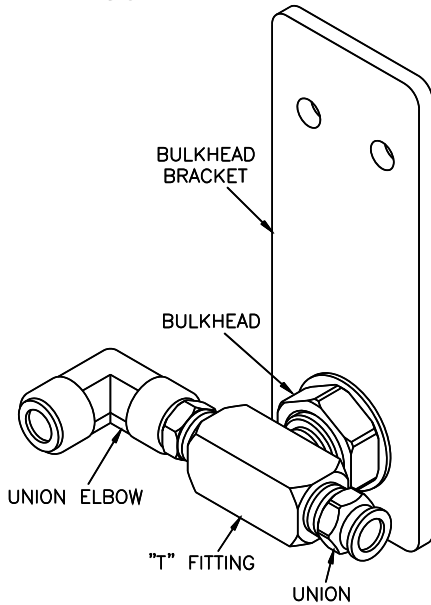

Fig 33 – Gate Assembly
- 60) Assemble "T" fitting (1/4NPT FxFxM), union elbow (1/4NPT x 1/4 tube), union (1/4NPT x 1/4 tube), and bulkhead bracket, **Fig 33**, one (1) assembly per lift.